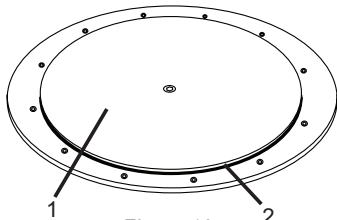

Figure 16
7. Remove the O-ring seal (Figure 16, Item 2) from the drum hatch (Figure 16, Item 1). Clean the seal using a mild detergent and water. Dry the O-ring before installation.